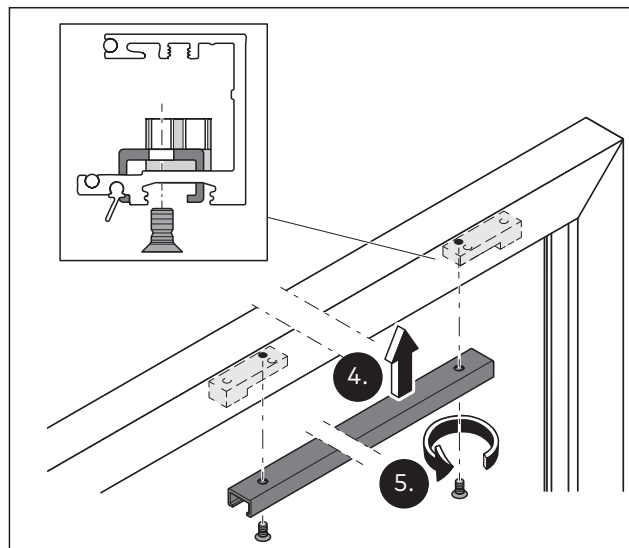

Fig. 41 Mount the brackets for the ITS 96's slide rail in the horizontal cover profile for the door frame
4. Attach the slide rail to the mounting brackets in the cover profile (Fig. 41).